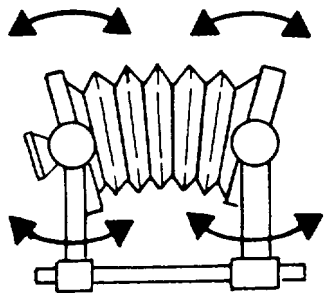

Figure 4-23.—Front and rear vertical tilt movement.
2. Vertical tilt. Both the front and rear standards tilt vertically (fig. 4-23).